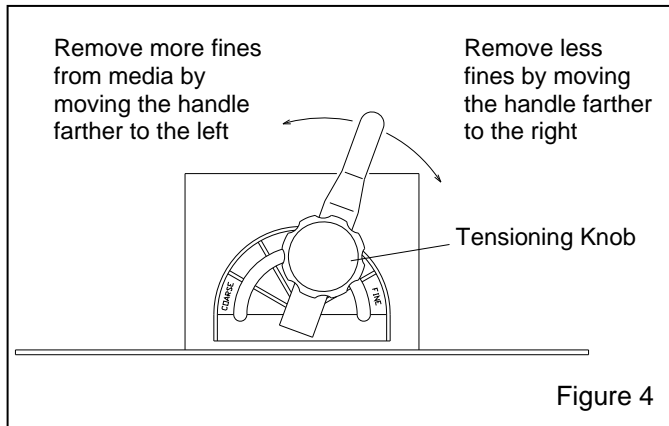

Figure 4
**10.3.1** Adjustments are made by loosening the handle's tensioning knob and moving the handle to achieve the correct setting. When the correct setting is established, tighten the tensioning knob to prevent movement. Start with the lever slightly to the right of the vertical, at about the one o'clock position as shown in Figure 4.